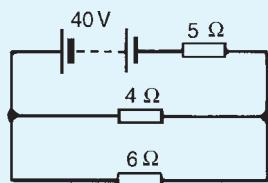

Figure 13.14
4. Use Kirchhoff's laws to find the current flowing in the 6Ω resistor of Fig. 13.14 and the power dissipated in the 4Ω resistor.